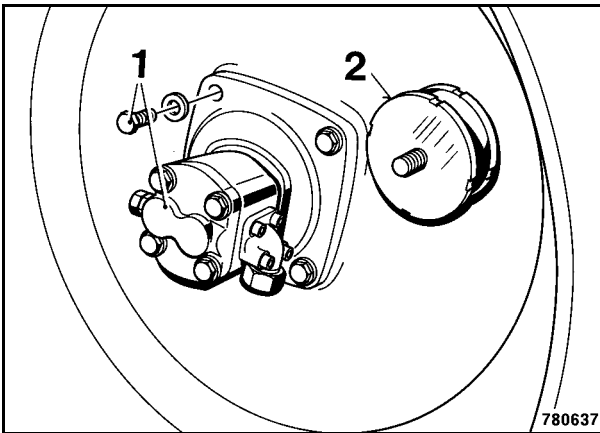

Fig. 19
27. Install the vibration motor 1 (Fig. 19).
28. If necessary fasten new rubber buffers (2) with 210 Nm.